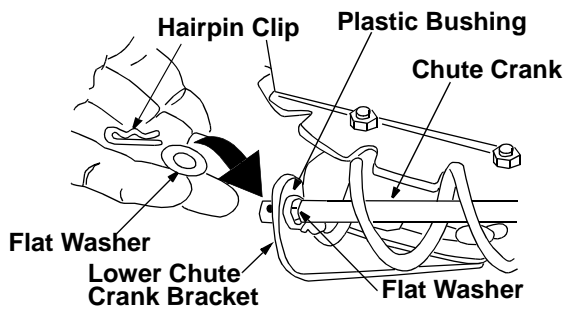

Figure 9
- Place the other flat washer onto the end of the chute directional control, and secure with hairpin clip. See Figure 9.